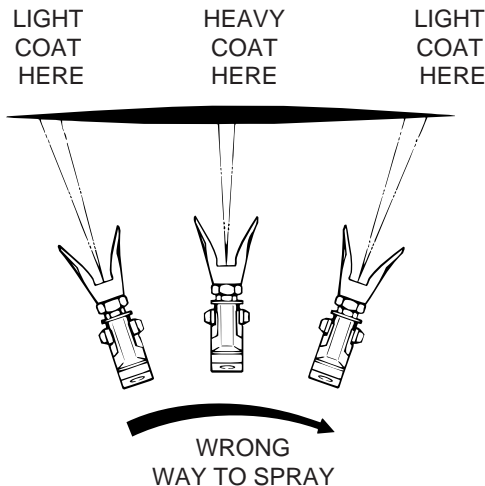
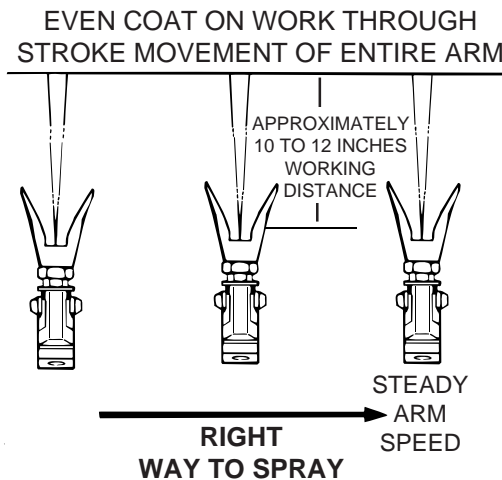

Figure 8.-Result of Flexing Wrist While Spraying.
Figure 9.-Result of Smooth Arm Stroke and Steady, Even Speed While Spraying
- Do not move the spray gun by flexing your wrist. The result of this is shown in Figure 8. Rather, move the spray gun with a smooth stroke of the entire arm and shoulder. Maintain the same arm speed all the way through the stroke. The result of this is shown in Figure 9.